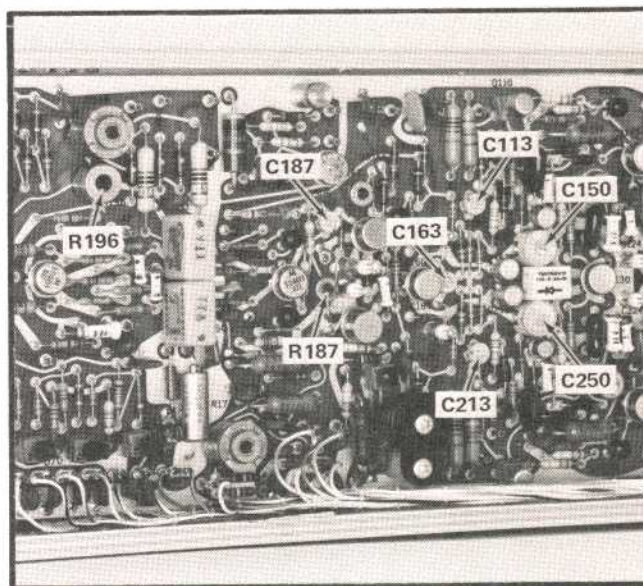

Fig. 5-13. Locations of the high-frequency adjustments on the Input board.
m. ADJUST—R196, R432, R300, C187, R187, C163, C113, C150, C250 and C213 (see Figs. 5-13 and 5-14) in the given order for optimum response to a square wave. C250 and C213 are mainly —INPUT adjustments. To perform the adjustments, use the information in the procedure that follows: